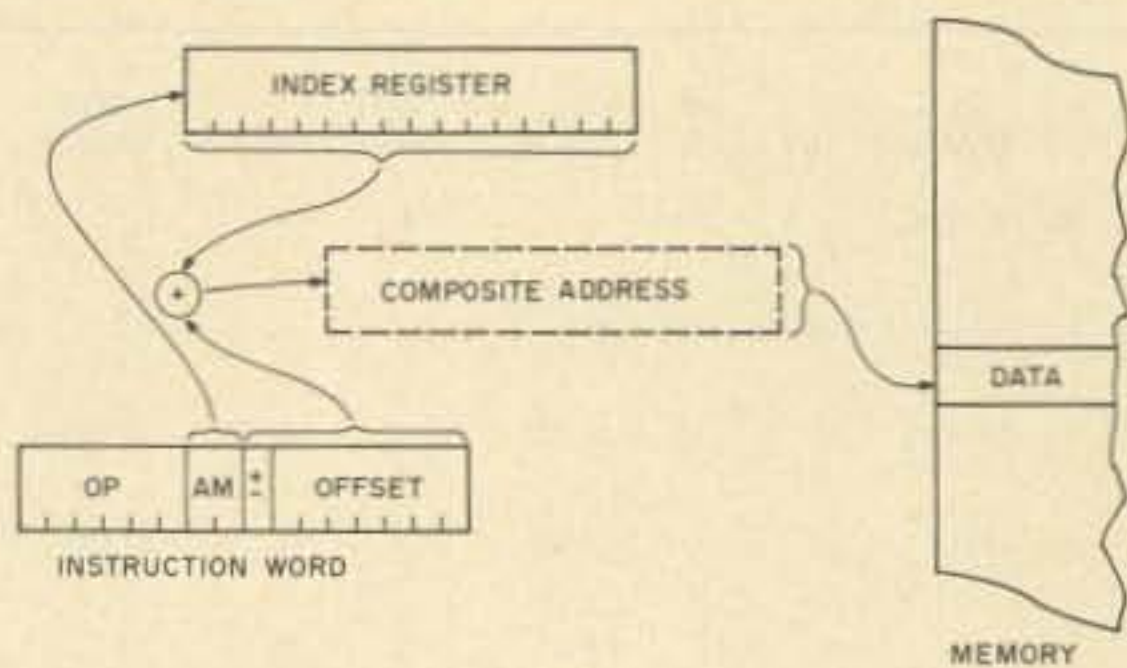

Fig. 10. Indexed addressing (PACE).
**Indexed.** When abbreviated addressing is combined with register indirect, the result is the indexed addressing mode. The address part in the instruction is added (algebraically if signed, but not all are) to the value in the index register to form the complete address of the data, as shown in Fig. 10. In some processors the address part is not abbreviated, but the index register may be; they cannot both be less than the full address size and still be useful. The indexed addressing mode is very useful for table handling, but more execution time and longer instructions are required for it than for register indirect.